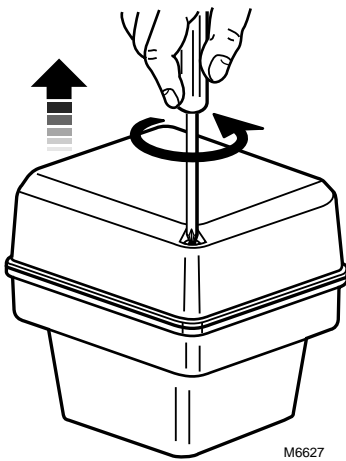

Fig. 4. Removing actuator cover.
6. Remove the cover from the actuator using a Phillips or crosspoint screwdriver. See Fig. 4.